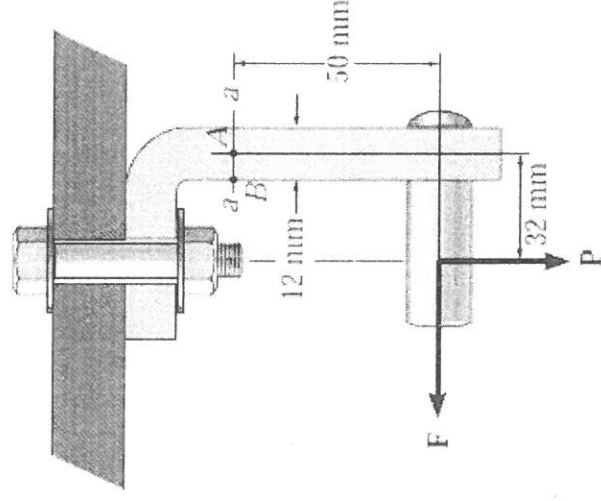

Fig. 3
3. As shown in Fig. 3, the joint is subjected to a force of  $P = 2 \text{ kN}$  and  $F = 2 \text{ kN}$ . The member has a rectangular cross-sectional area of width  $18 \text{ mm}$  and thickness  $12 \text{ mm}$ .